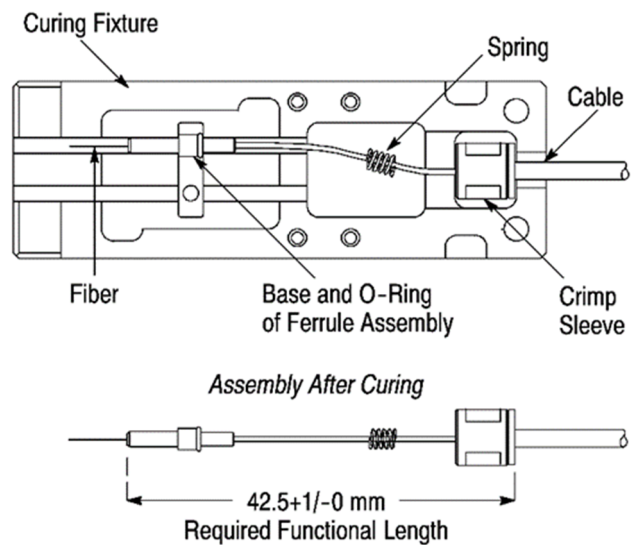

Figure 7
19. Measure the assembly to make sure that it conforms to the dimension given in Figure 7. If it does not, re-strip and re-terminate the fiber.